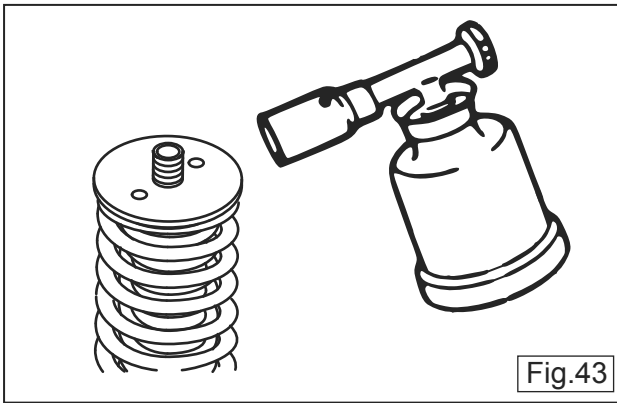

Fig.43
d. Heat the spring holder with torch burner so that the spring holder can be removed easily. (Fig. 43)